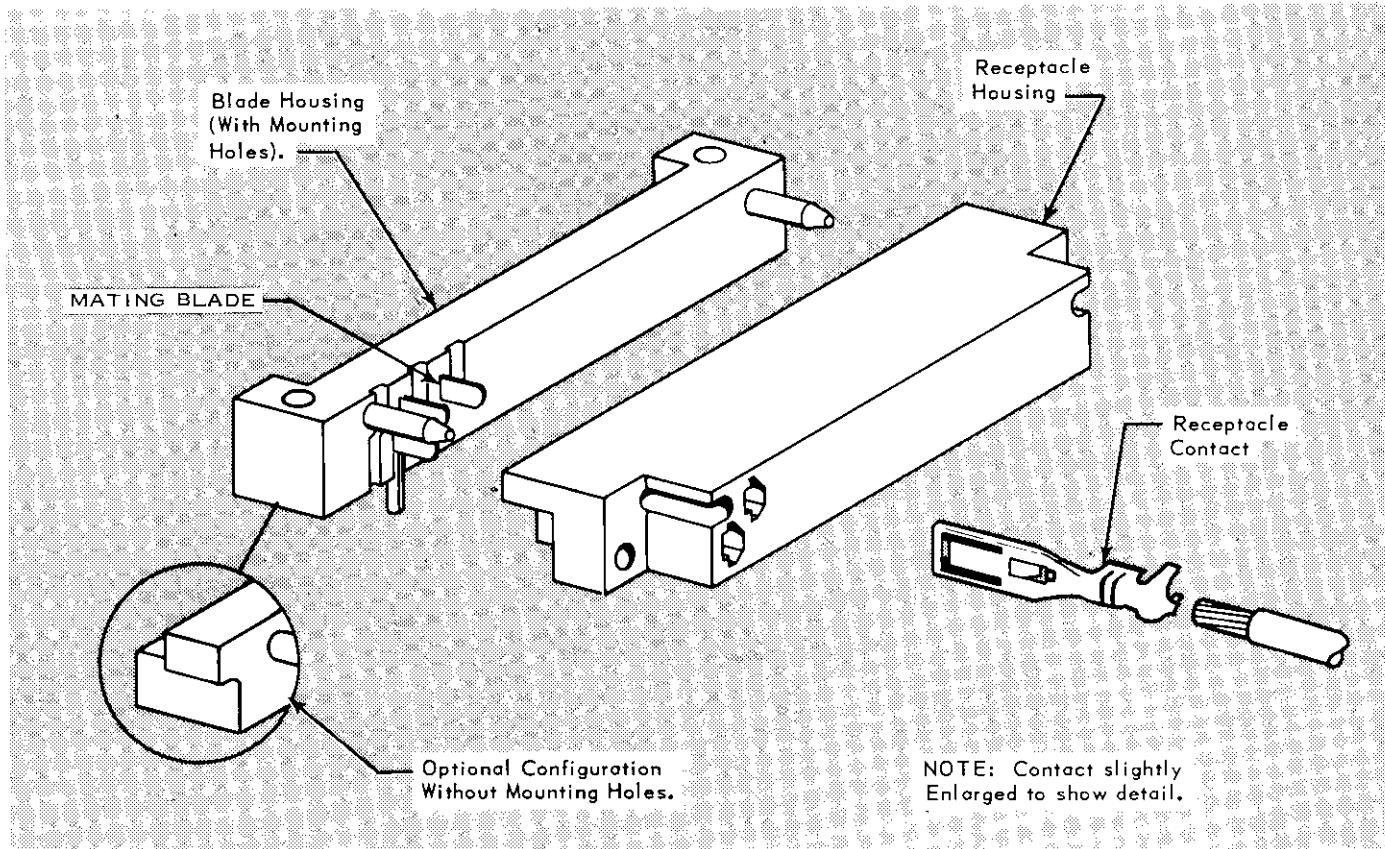
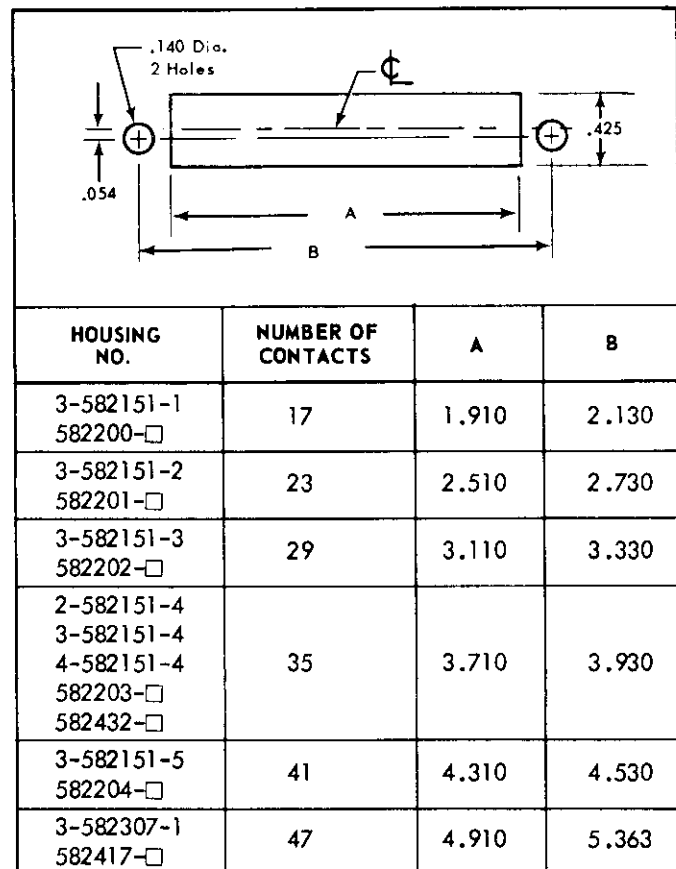

FIG. 1
FIG. 5
1. The AMP-BLADE Edge Connectors whose Part Numbers are shown in Figure 5 consist of three major parts: AMP-BLADE Receptacle Contacts, the Receptacle Housing and the Blade Housing. See Figure 1.
To mount Receptacle Housing to Panel, make cutout in Panel using the dimensions listed in Figure 5.